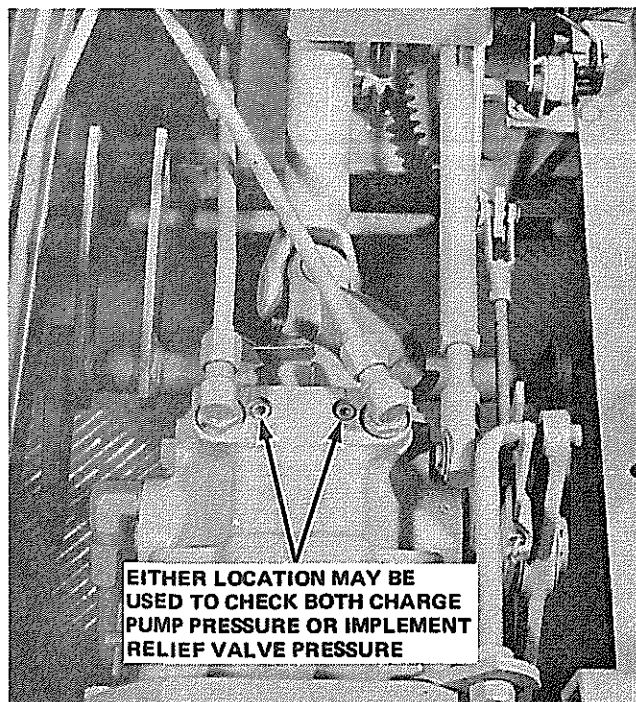

FIGURE 3-7
1. To check the charge pump pressure, install the pressure gage into either of the two pipe fittings on the top of the hydro (fig. 3-7).